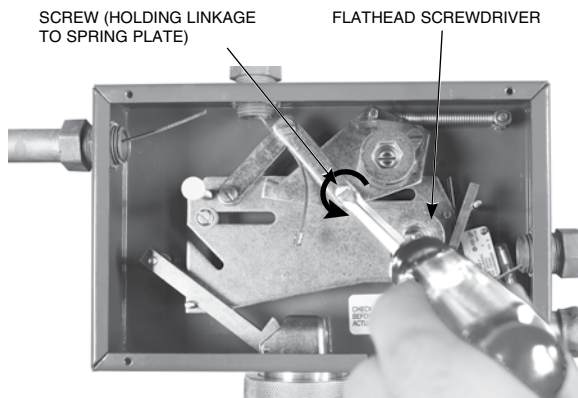

FIGURE 14
9. Remove screw holding spring plate assembly in place. Collapse linkage, so it is out of the way of spring plate assembly. Dispose of screw. See Figure 14.